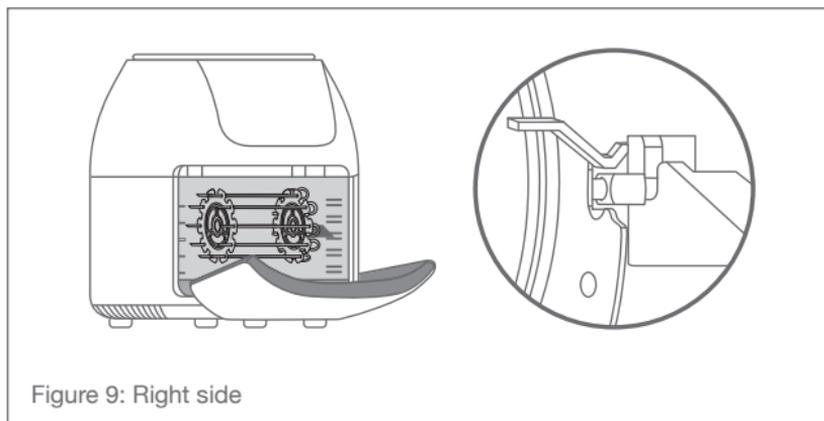

Figure 9: Right side
5. Insert now the right hand side of the rotating frying basket (2) or of the grill spit (4) into the respective deepening – see figure 9.